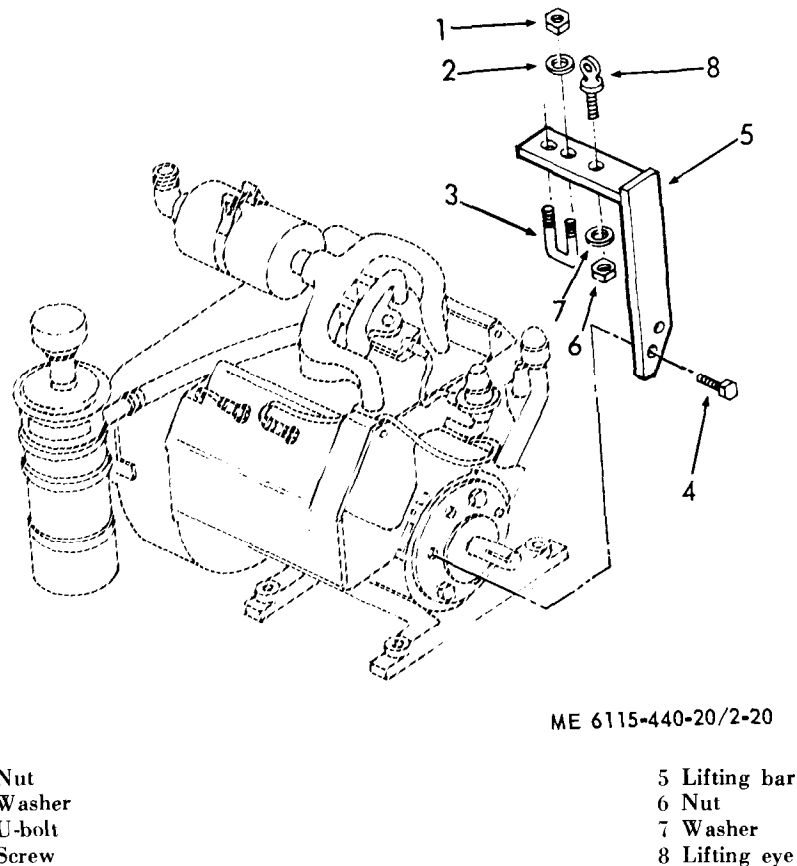

Figure 2-20. Lifting bar, removal and installation.
(1) Remove two nuts (1, fig. 2-20), washers (2), and U-bolt (3) from lifting bar (5) on top of engine.
(2) Remove engine sheave (para 2-43).
(3) Remove two screws (4) which secure the lifting bar (5) to the main bearing plate on the engine.
(4) Remove lifting bar.
(5) Remove nut (6), washer (7), and lifting eye (8).